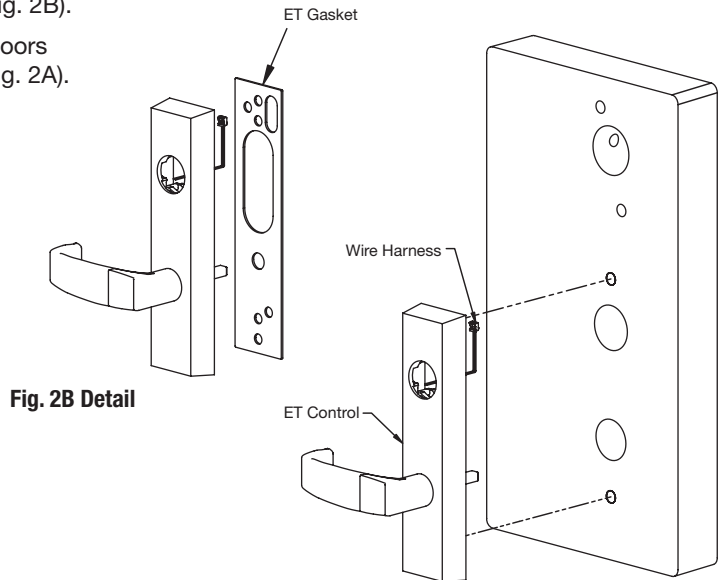

Fig. 2A
2. Route ET wire harness in cutout for wood doors and through access hole for metal doors (Fig. 2A).